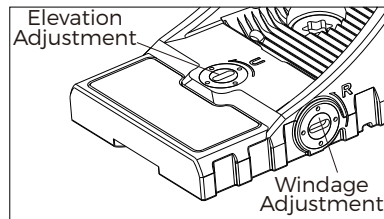

Fig 8
2. The elevation adjustment is located on the top-rear section of the housing and the windage adjustment is located on the right side of the housing towards the rear. Adjustment can be performed by inserting the flat tipped end of the included tool into the turret slot and rotating as shown in the figure below. The arrows indicate the change in point of impact. (See Fig 8)